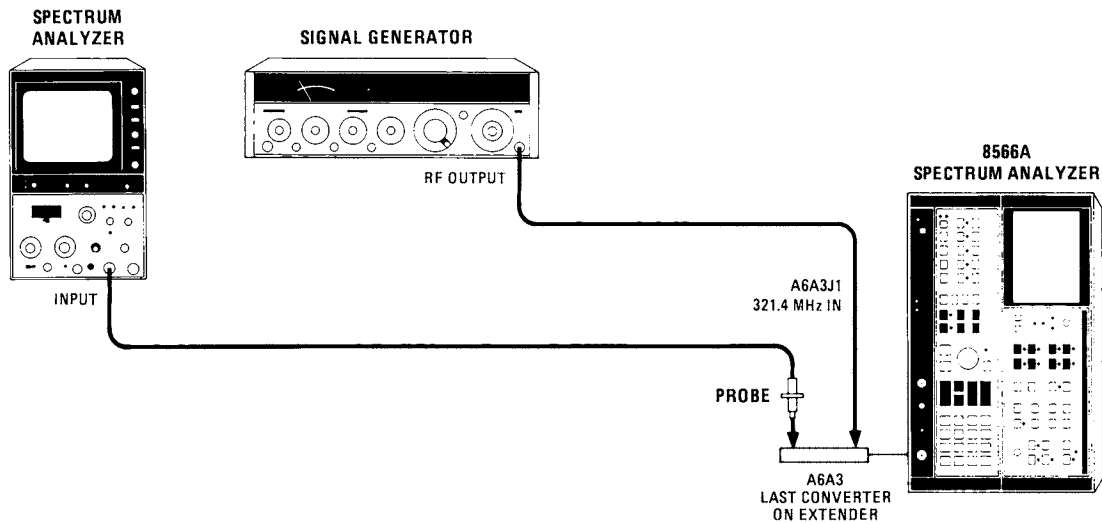

Figure 5-62. Last Converter Adjustments Setup
2. Remove RF Section right side cover and remove two screws attaching A6A3. Remove A6A3 Last Converter and place on extender board. Place instrument on right side as shown in Figure 5-62.